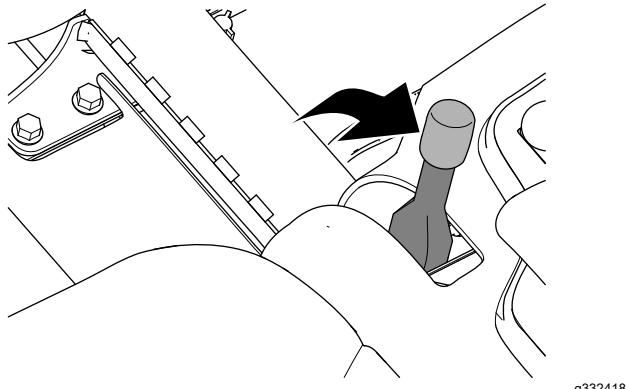

Figure 31
2. Engage the parking brake (Figure 31).